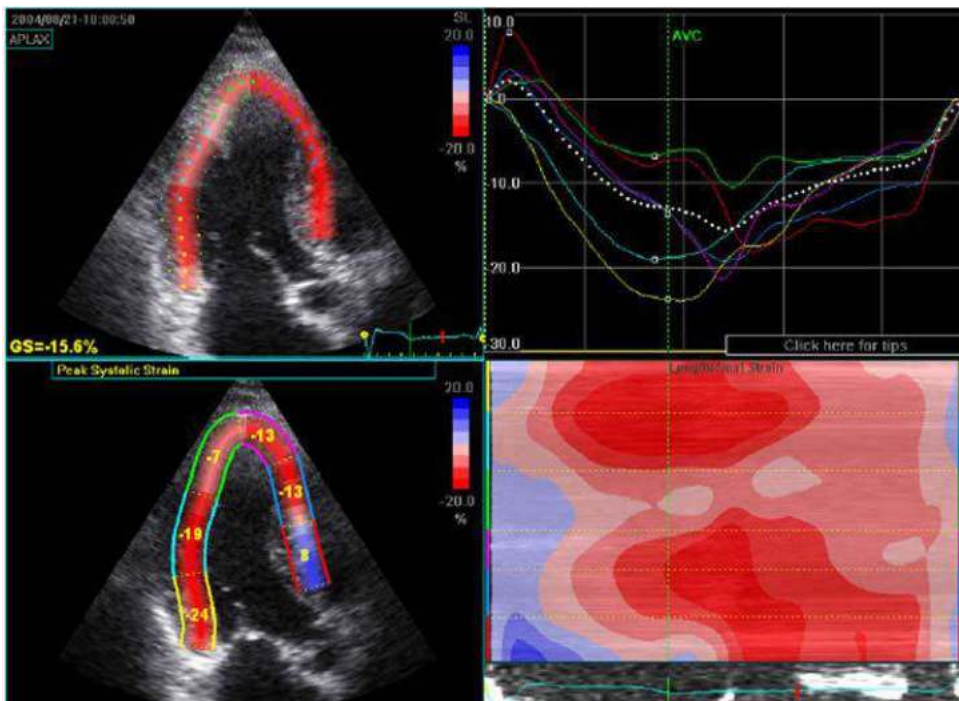

Figure 13-109. Quad screen for the APLAX view
- Quad screen (see Figure 13-109 on *page 13-235*) displaying: